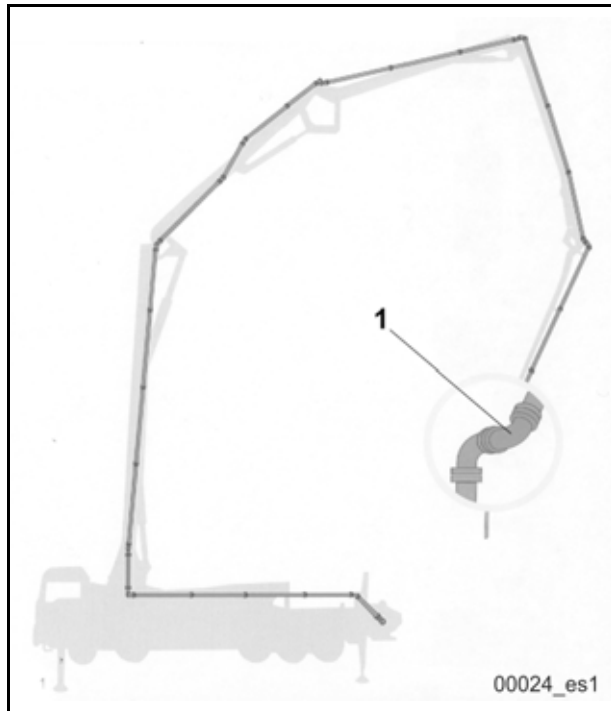

Fig. 337
The impact bend (1) (**Fig. 337**) is the penultimate bend in the boom pumping line. The concrete frequently falls into this elbow and the impacting material causes so-called impact wear.